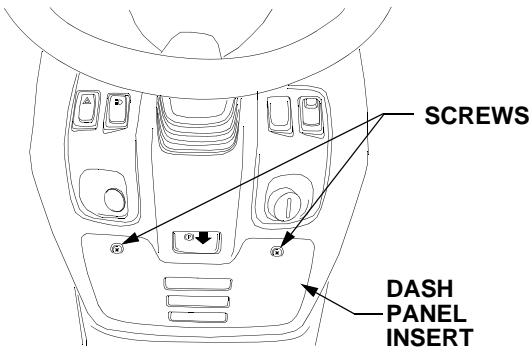

Figure 37
The fuse center is located on the inside *right* of the dash panel. To access the fuse center, remove the dash panel insert by removing the two screws. See Figure 37.
- Remove the dash panel insert by removing the two screws. Refer to Figure 37.